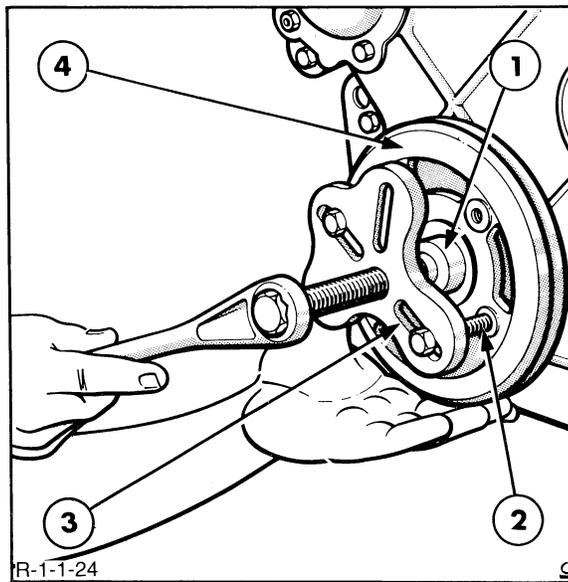

FIGURE 1-23
3. Using Puller No. 518 or 9539 and Shaft Protector No. 625-A or 9212, remove the crankshaft pulley, Figure 1-23.